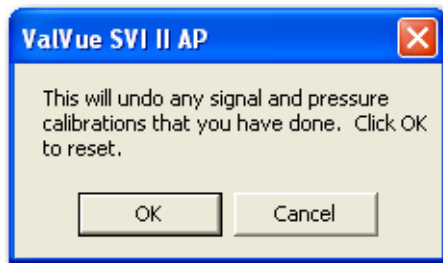

Figure 108 Reset to Factory Cal Dialog
1. Select **Reset to Factory Cal** from the *Calibrate* context menu and Figure 108 appears.